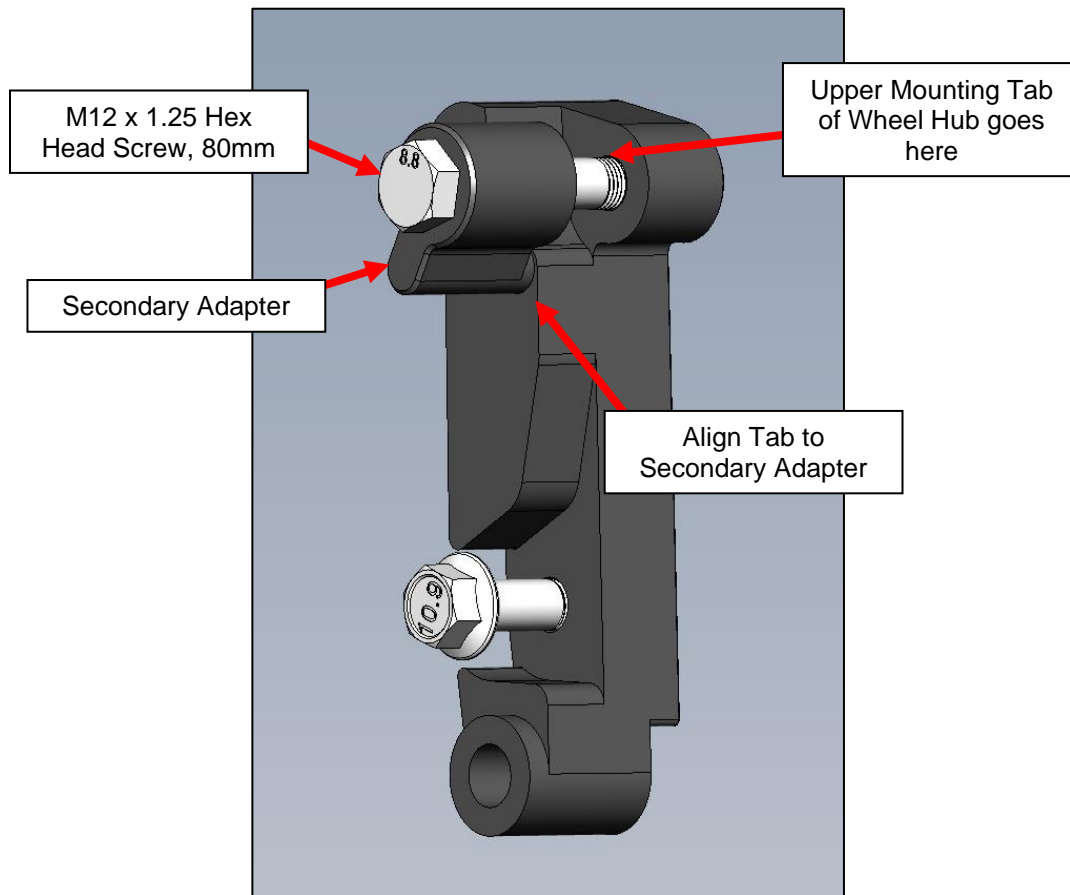

Figure 6
13. Position the Secondary Adapter on the outboard side of the upper Caliper Mounting Point. Align the Secondary Adapter with the tab on the Main Adapter. Secure with the M12 Hex Head Screw. *Figure 6.*